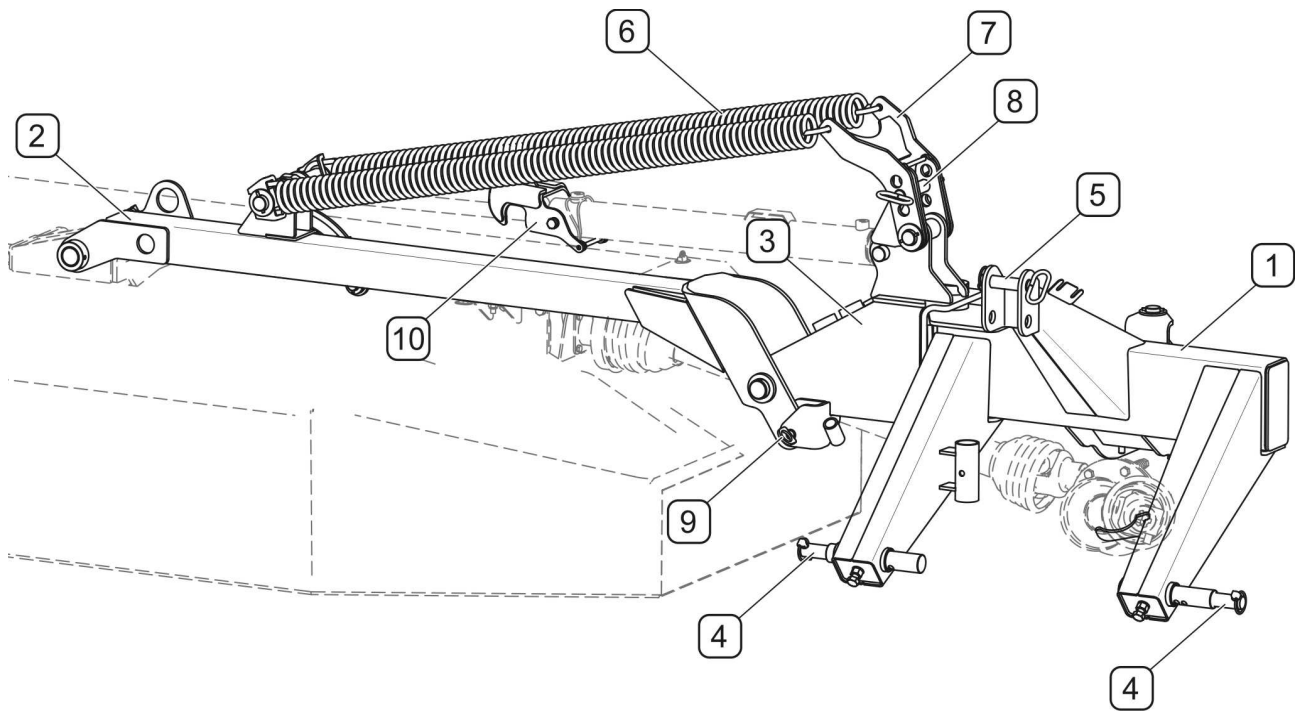

FIG. 3.2A PDT290 / PDT290C mower linkage
(1)- three-point linkage frame; (2)- lifting arm; (3)- moving arm; (4)- three-point linkage lower hitching eye pin; (5)- central connection pin; (6)- stay springs; (7)- spring catch; (8)- spring tensioning pin; (9)- lifting arm interlock pin; (10)- cylinder lock
The main element of the *PDT290 / PDT290C* mower linkage (FIG. 3.2A) is the three-point linkage frame (1), equipped with two lower pins (4) and upper pin (5) for connection to the tractor's rear three point linkage. Moving arm (3) allows the cutting unit to swing backwards. Lifting arm (2) raises the cutting unit. To relieve the cutting unit, springs (6) are used, whose tension can be adjusted by changing the positioning of the pin (8). Using the pin (9) lifting arm can be interlocked (2) when mower is disconnected from the tractor.